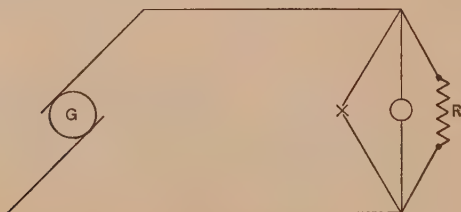

FIG. 51.
**Problem 42.** In Fig. 51, the arc lamp has a resistance of 18 ohms, the incandescent lamp has a resistance of 84 ohms and a current of 1.32 amp. The line carries a current of 9 amp.